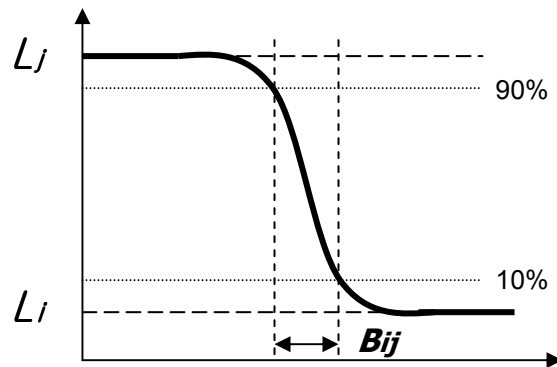

FIG. 3 MPRT
4. MPRT is defined as the 10% to 90% blur-edge width  $B_{ij}$ (pixels) and scroll speed  $U$ (pixels/frame)at the moving picture. For more information, see FIG 3